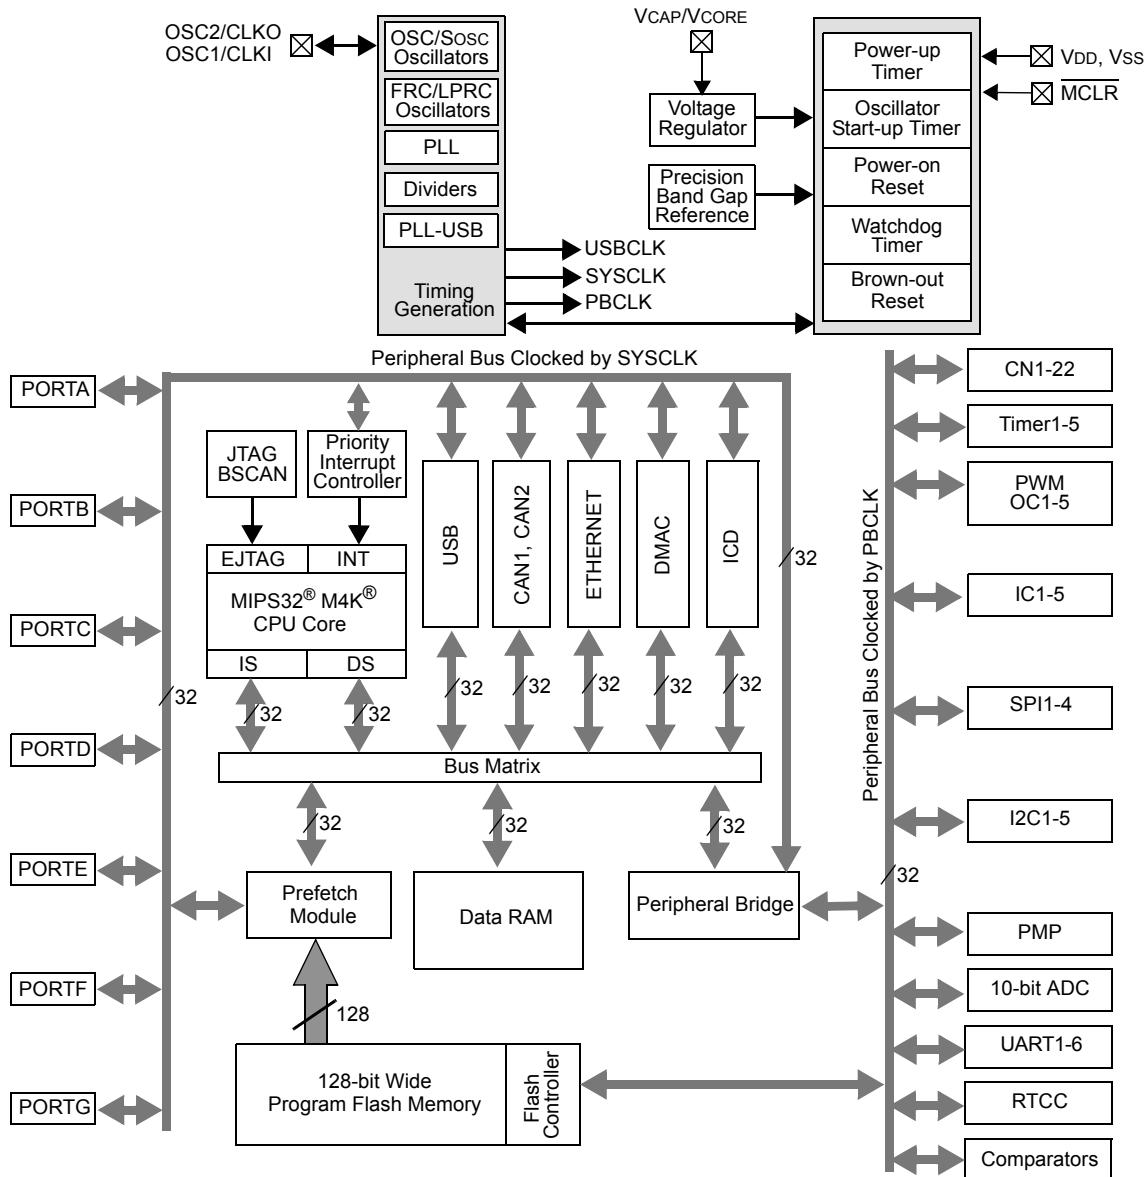

Figure 2.2: The PIC32MX5XX/6XX/7XX architecture.
Figure 2.2 depicts the PIC32’s architecture. Of course there is a CPU, program memory, and data memory. Perhaps most interesting to us, though, is the plethora of *peripherals*, which are what make microcontrollers useful for embedded control. From left to right, top to bottom, these peripherals consist of PORTA . . . PORTG, which are digital I/O ports; 22 change notification (CN) pins that generate interrupts when input signals change; five 16-bit counters (which can be used as one 16-bit counter and two 32-bit counters by chaining) that can be used for a variety of counting operations, and timing operations by counting clock ticks; five pins for output pulse-width modulation (PWM) pulse trains (or “output compare” OC); five pins for “input capture” (IC) which are used to capture timer values or trigger interrupts on rising or falling inputs; four SPI and five I²C synchronous serial communication modules; a “parallel master port” (PMP) for parallel communication; an analog-to-digital converter (ADC) multiplexed to 16 input pins; six UARTs for asynchronous serial communication (e.g., RS-232, RS-485); a real-time clock and calendar (RTCC) that can maintain accurate
Note that the peripherals are on two different buses: one is clocked by the system clock **SYSCLK**, and the other is clocked by the peripheral bus clock **PBCLK**. A third clock, **USBCLK**, is used for USB communication. The timing generation block that creates these clock signals and other elements of the architecture in Figure 2.2 are briefly described below.